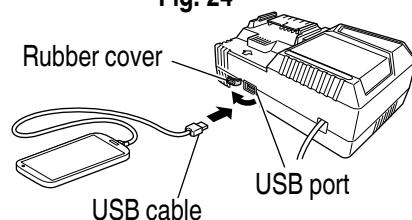

Fig. 25
(2) Connect the USB cable. (**Fig. 25**)